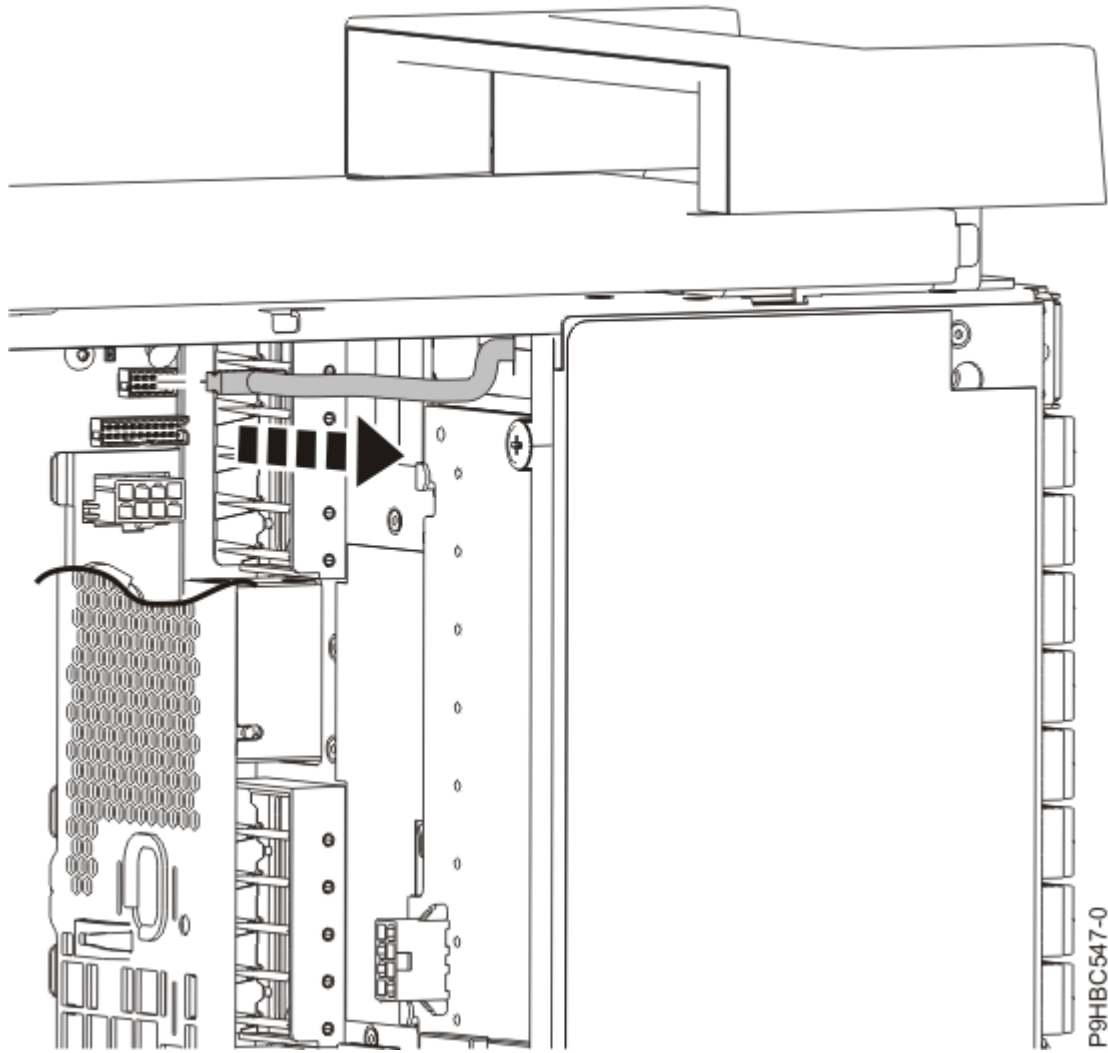

*Figure 107. Partially removing the RDX docking station*
- a) Push the RDX docking station latch upwards in the direction of the arrow as shown in Figure 107 on page 112.